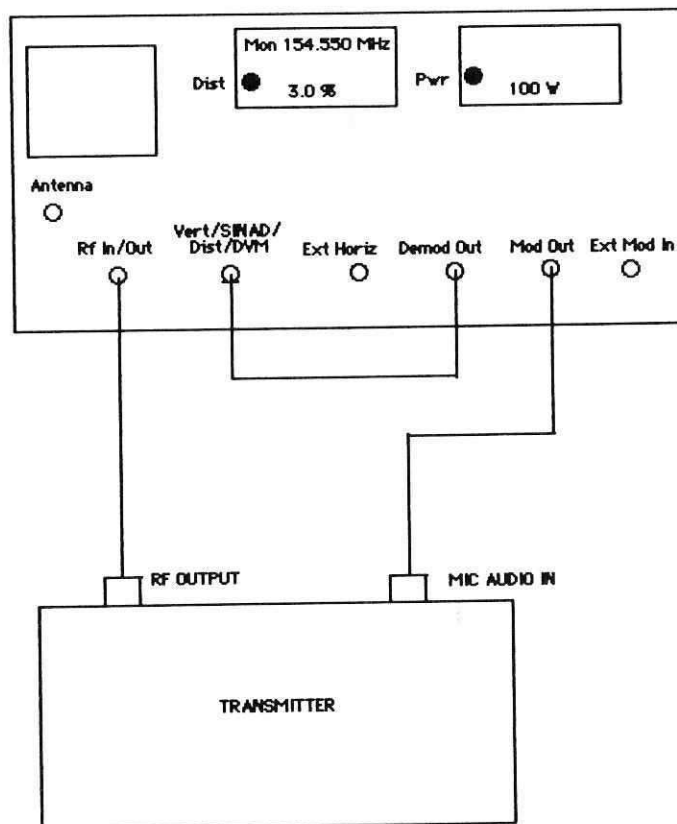

FIGURE 5.8—TRANSMITTER AUDIO DISTORTION SETUP
2. Connect the service monitor to the transmitter, as shown in figure 5.8. Observe caution on page 5-5.